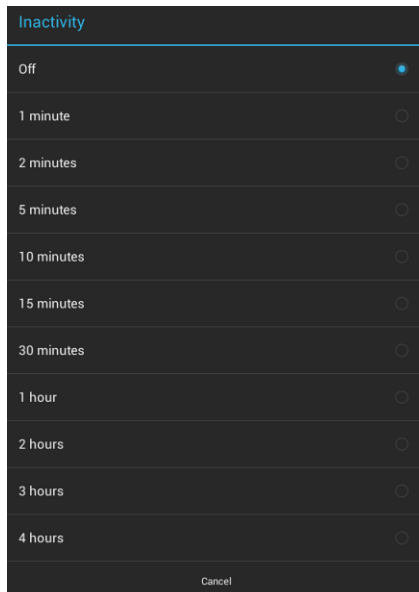

FIG. 27 Inactivity window
1. In the *G5 Settings* page, press **Inactivity** to open the *Inactivity* window (FIG. 27):